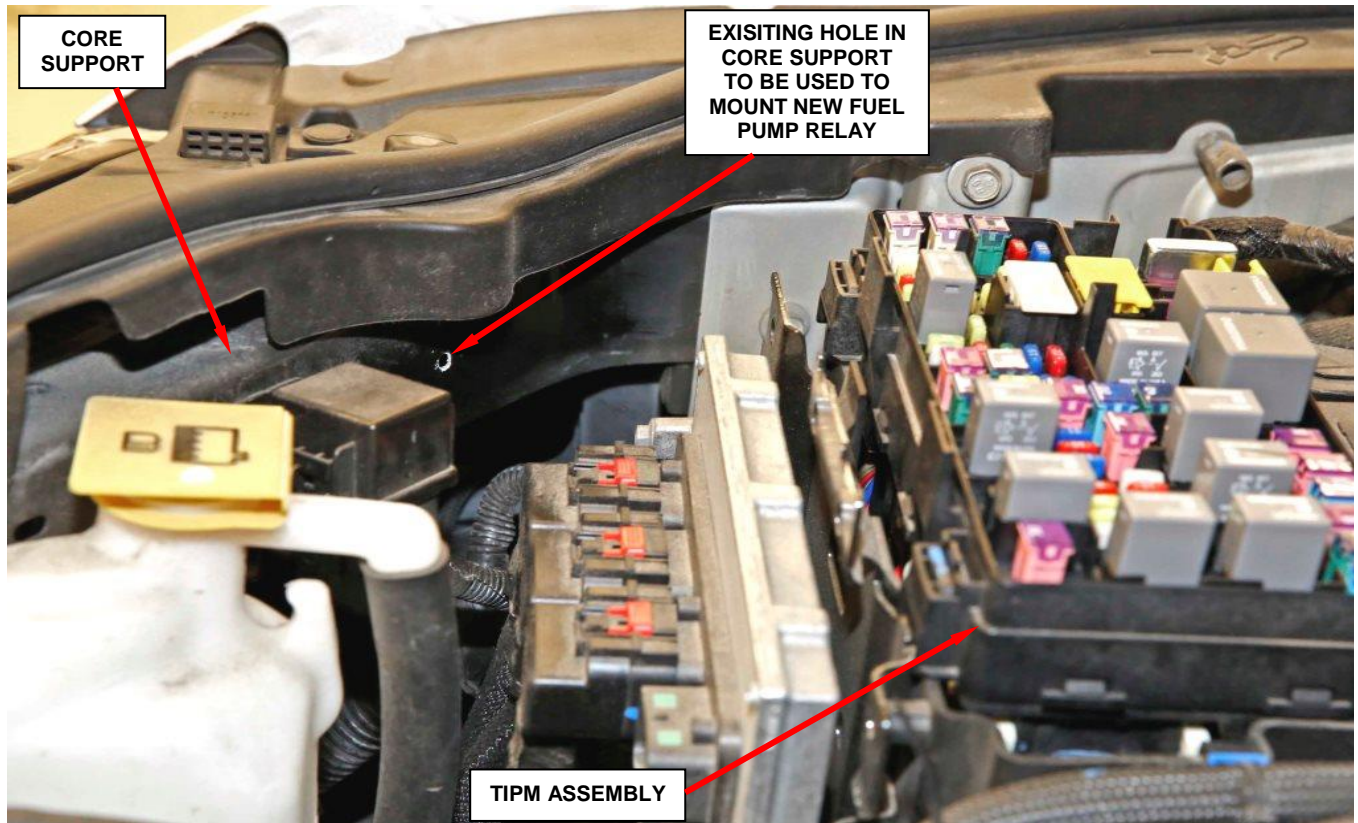

Figure 24 – Mount New External Relay to Vehicle Core Support
30. Mount the new external fuel pump relay to the vehicle core support. Use the existing hole in the core support and the supplied plastic push pin (Figure 24).